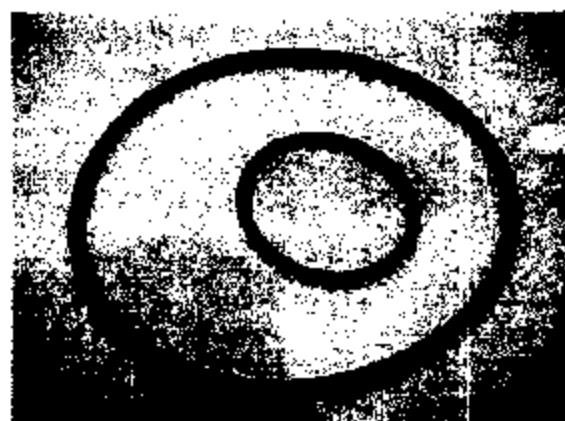

Figure 15
29. Remove the reverse piston. Discard the inner & outer o-rings (*see figure 15*).